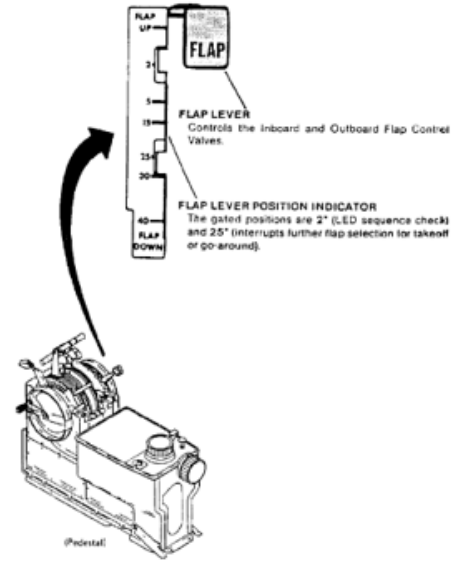

Figure 1
9. Move flap handle to 0° (see figure 1)
13. Move flap handle to 5° (see figure 1)
15. Move flap handle to 20° (see figure 1)
17. Move flap handle to 25° (see figure 1)
19. Move flap handle to 30° (see figure 1)
21. Move flap handle to 40° (see figure 1)